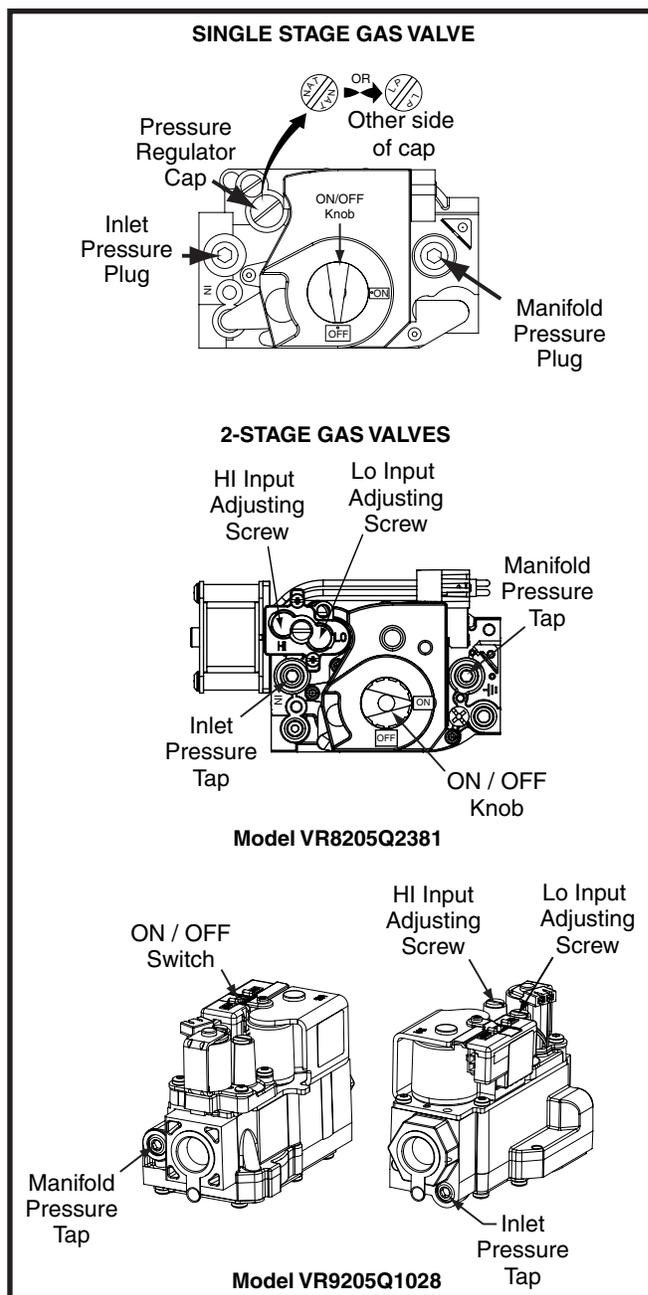

Figure 3. Gas Valves - Top View
7. Turn the gas valve knob to the OFF position. See Figure 3 for gas valve knob location.